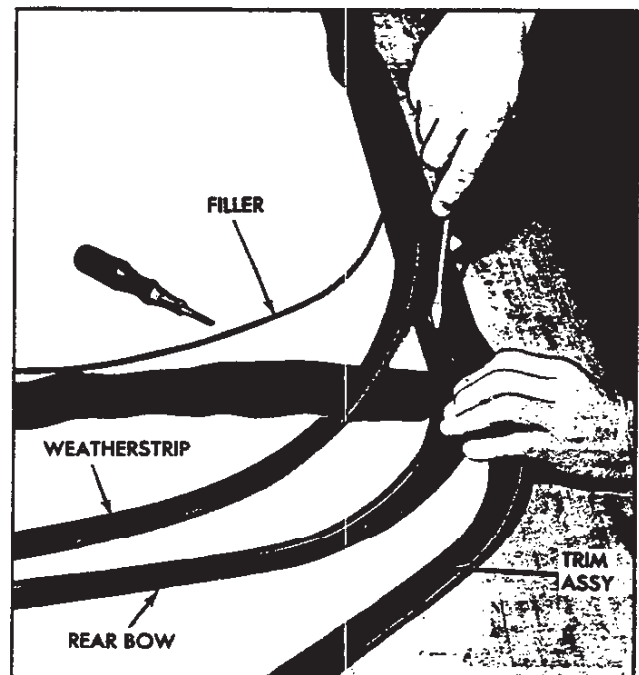

Fig. 67—Installing Trim and Weatherstrip to Rear Bow
Section A-A shows installed position of these components. Refer also to Figure 67.
2. Assemble top trim and weatherstrip to rear bow, referring to Section A-A and Figure 67. Note that filler strip locks this assembly together and goes in last. Align center marks.